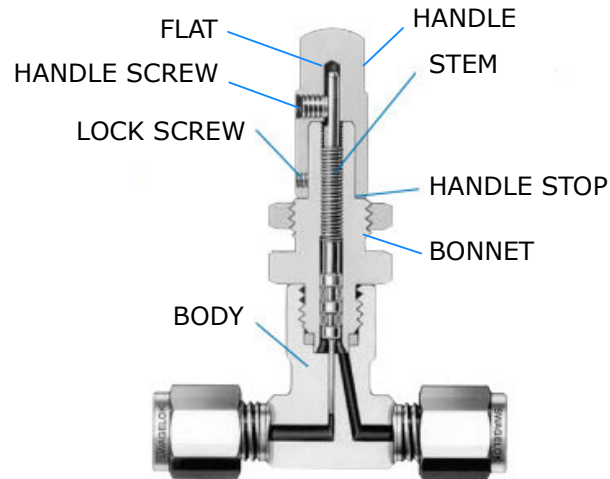

Figure 38: Setting/locking the needle valve
1. Loosen the lock screw at the base of the handle using a 0.050 in. Hex key wrench. Refer to Figure 38.